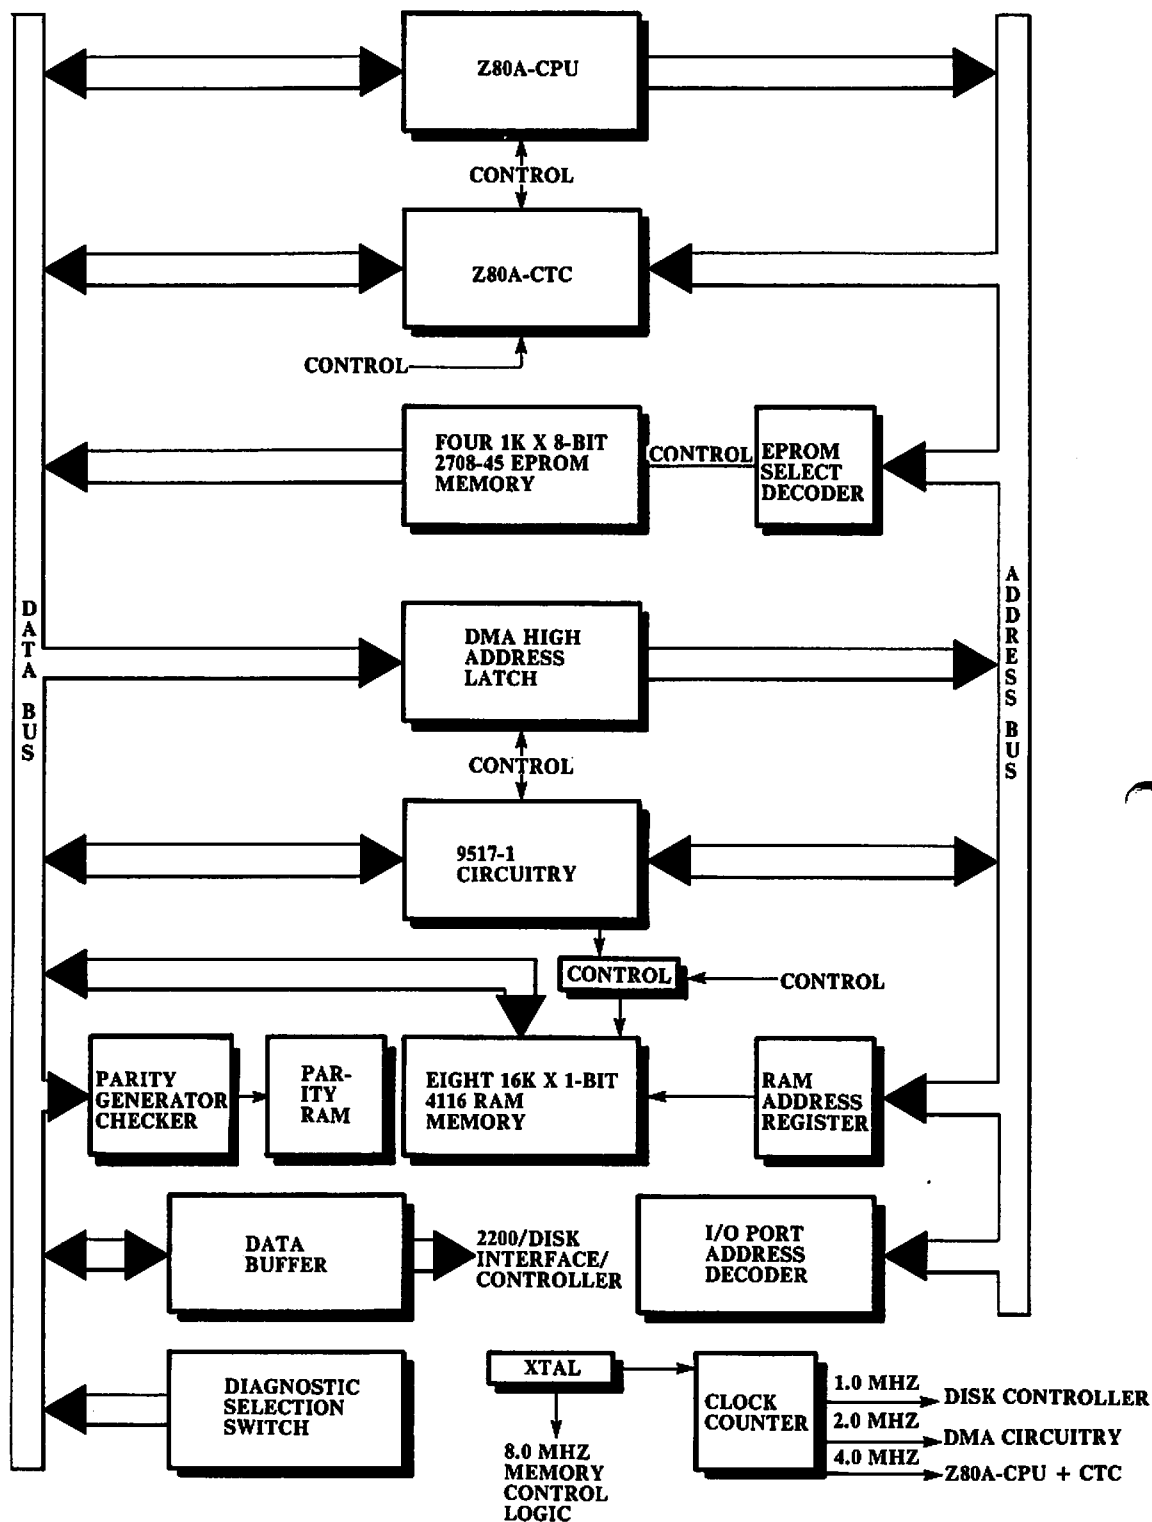

FIGURE 5-3 MICROCOMPUTER/ MEMORY BLOCK DIAGRAM
5.5.1 MICROCOMPUTER AND MEMORY (ref: FIGURE 5-3)